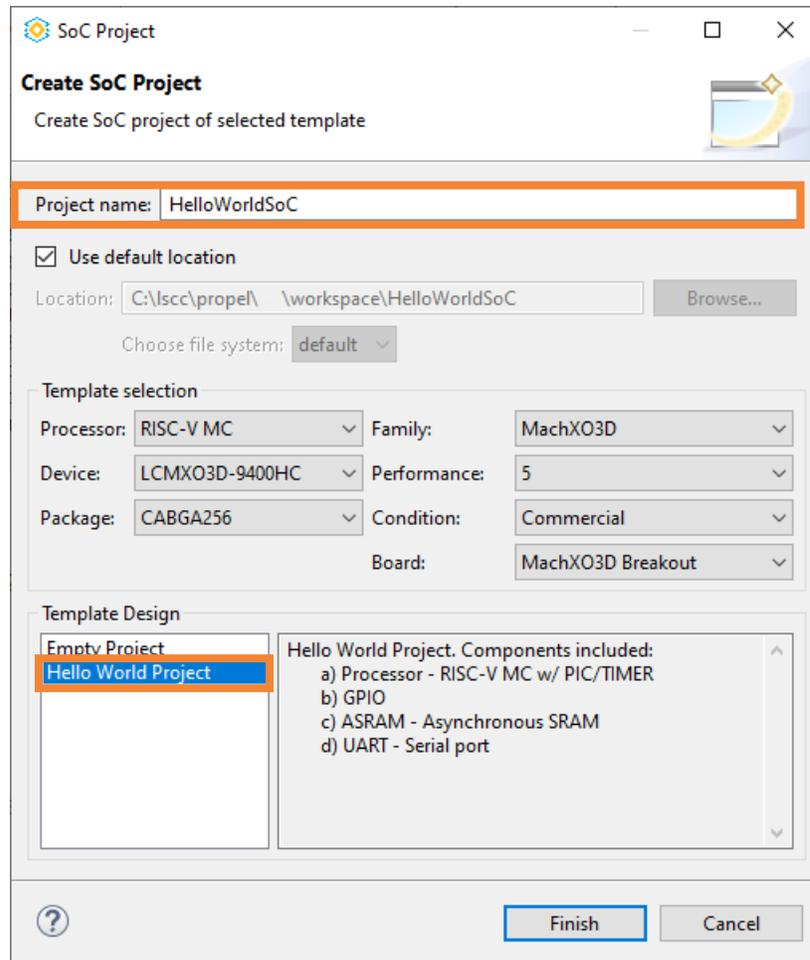

Figure 4.3. Create SoC Project Wizard
- The **Create SoC Project** wizard opens (Figure 4.3). Enter a project name, such as **HelloWorldSoC**. Select the **Hello World Project** template.